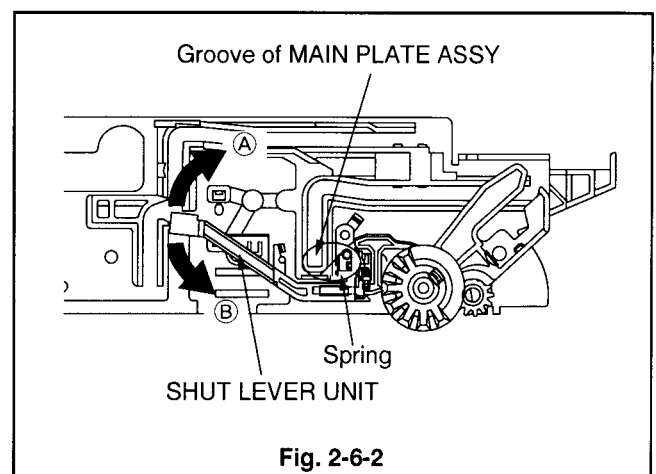

Fig. 2-6-2
- 4 Insert the spring of the SHUT LEVER UNIT under groove of the MAIN PLATE ASSY shown in Fig. 2-6-2.
- 5 Make sure that the SHUT LEVER UNIT returns in the direction shown by arrow (B) when it is moved in the direction shown by arrow (A).